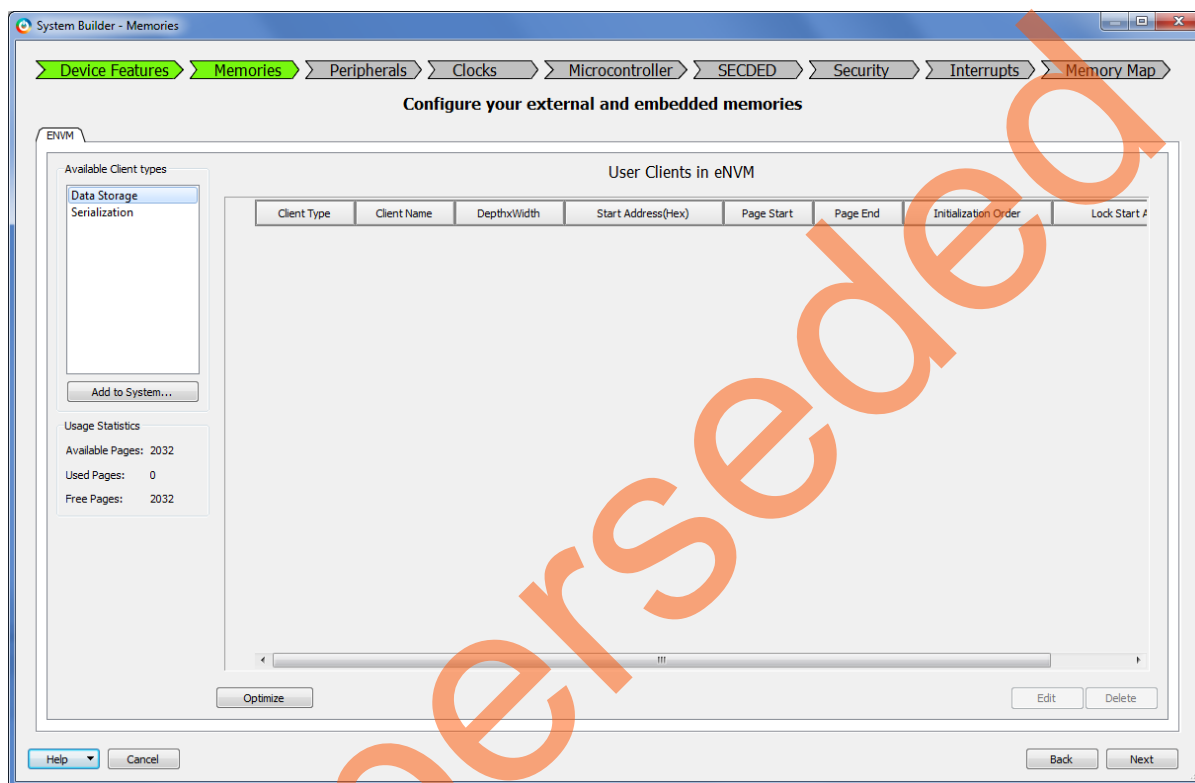

Figure 1 • Adding the Client Type
3. Select **Data Storage** under **Available Client types** and click **Add to System**, as shown in Figure 1.